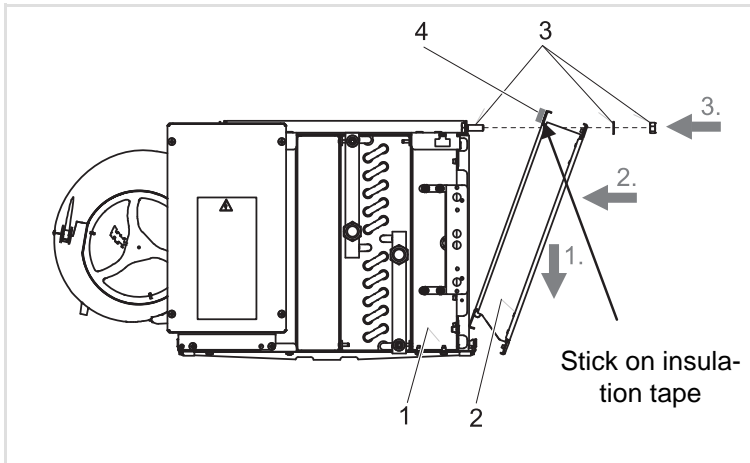

Fig. 4-10: Assembly discharge transition piece
- Stick the adhesive tape above the flange of the discharge transition piece (see Fig. 4-10, Pos. 4).
- Set the flange of the discharge transition piece in place and screw it on using M8 screws (washers and nuts) on the side of the air discharge of the basic unit (see Step 1 to 3., Fig. 4-10)